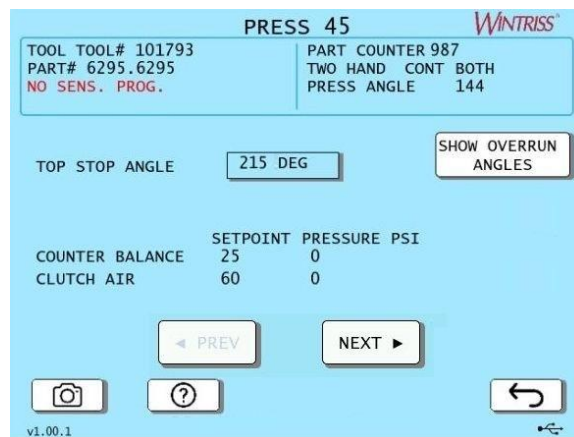

Figure 3-35. Press Control Screen
2. Press the Press Control button. The Press Control Screen appears, Figure 3-35.